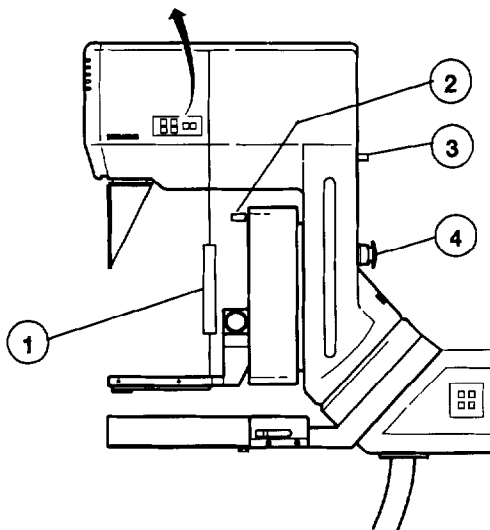

Fig. 1
- Correct display (refer to chapter 2: 6/Fig.1)